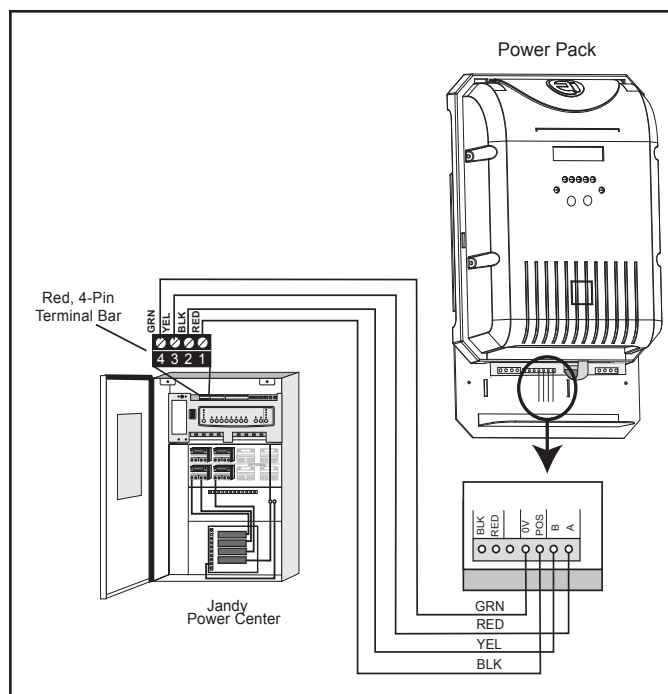

Figure 7. Communication Wiring between Power Pack and AquaLink RS Control System or PDA Network
6. The Jandy AquaLink® RS or PDA and power pack use a four (4) wire connection to communicate and can be wired up to 500 ft (152.4 m) apart. Any outdoor rated four conductor cable, minimum 22 AWG (0.33 mm²), can be used. Locate the appropriate screw terminals on the circuit board and wire the power pack to the AquaLink RS or PDA red 4-pin terminal bar (see Figure 7).
NOTE If the power pack does not connect to the controller, turn the power off to both devices and repeat steps 1 and 2. If the power pack still does not connect to the controller, re-check the wiring connections (see Figure 7) and the controller setting on the power pack (see Section 4.B).